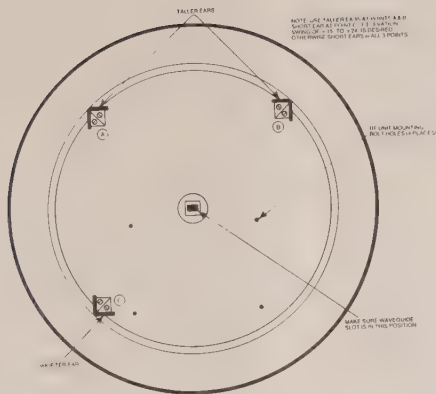

Figure 3-20. Corner Ear Installation For Vertical Polarization
Step 1. Attach the corner ears as shown in Figure 3-20. Make sure the waveguide slot has the long dimension situated horizontally as shown.